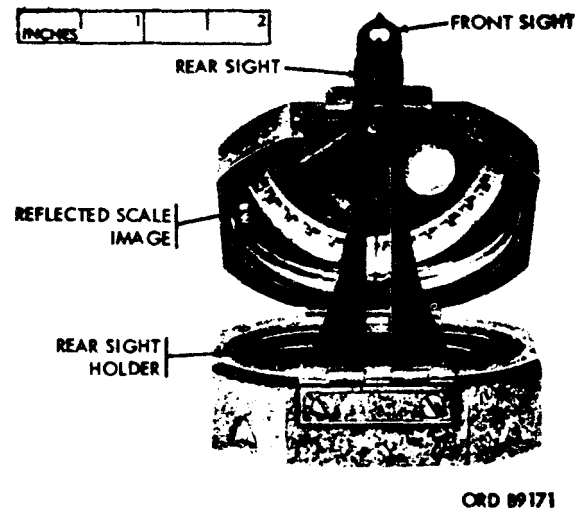

Figure 4. Compass M2 observer's view, azimuth.
c. *Measuring Azimuth Angles.* To read the azimuth scale by reflection, hold the compass in both hands at eye level with arms braced against body and with the rear sight nearest the eyes. Place the cover at an angle of approximately 45° to the face of the compass (fig. 4) so that the scale reflection can be readily viewed in the mirror. Level the instrument by viewing the circular level in the mirror, sight on the desired object through the window, and read the azimuth indicated on the reflected azimuth scale by the south-seeking
- (2) Fold the rear sight holder (fig. 4) out parallel with the face of the compass, with the rear sight perpendicular to its holder. Sight through or over the rear sight and view the object through the window in the cover. If the object sighted is at a lower elevation than the compass, raise the rear sight holder as needed. The compass is correctly sighted when the compass is level and the operator sees the black center line of the window bisecting the rear sight and the object sighted.
- (3) Raise the front sight and the extended rear sight assembly perpendicular to the face of the compass. Sight over the tips of the rear and front sights. If the object is above the line of sighting, fold the rear sight toward the eye as needed. The instrument is correctly aligned when, with the level centered, the operator sees the tips of the sights and the center of the object sighted in coincidence.